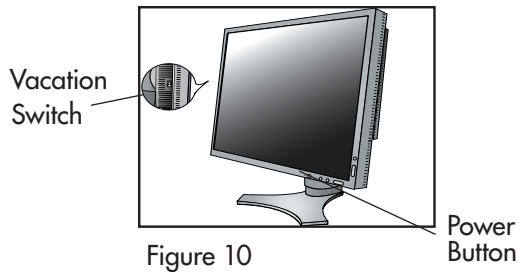

Figure 10
8. The vacation switch on the left side of the monitor must be in the ON position for the monitor to function (Figure 10). Turn on the monitor using the front power button, then turn on the computer.